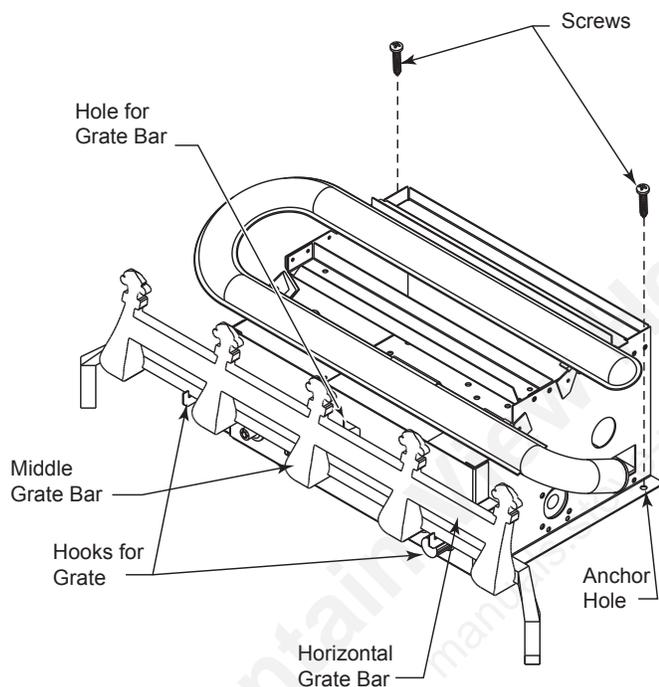

Figure 12 -
2. Install Grate: Insert longest middle grate bar in one of the two square holes in control panel. *Figure 12*. Be sure grate is centered. Sit horizontal bar inside two hooks on front of control panel. *Figure 12*. Make certain front feet of grate are located inside front edge of fireplace or firebox.
3. Anchor holes are located on the flange of the unit. *Figure 12*. After centering the burner correctly, mark the hole positions on the fireplace/firebox floor. Drill two (2) 5/32" diameter holes approximately 1½" deep.